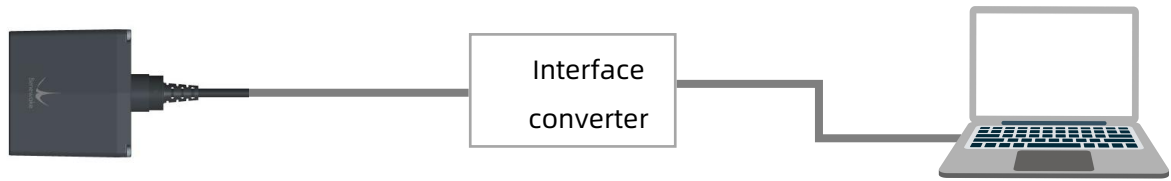

Figure 14 TF350 connecting to PC
- Connect TF350 to the PC or laptop with a **paired USB converter** cable as shown in Figure 14 TF350 connecting to PC. The RS-485 version TF350 needs a RS-485-USB converter, and the RS-232 version TF350 needs a RS-232-USB converter.